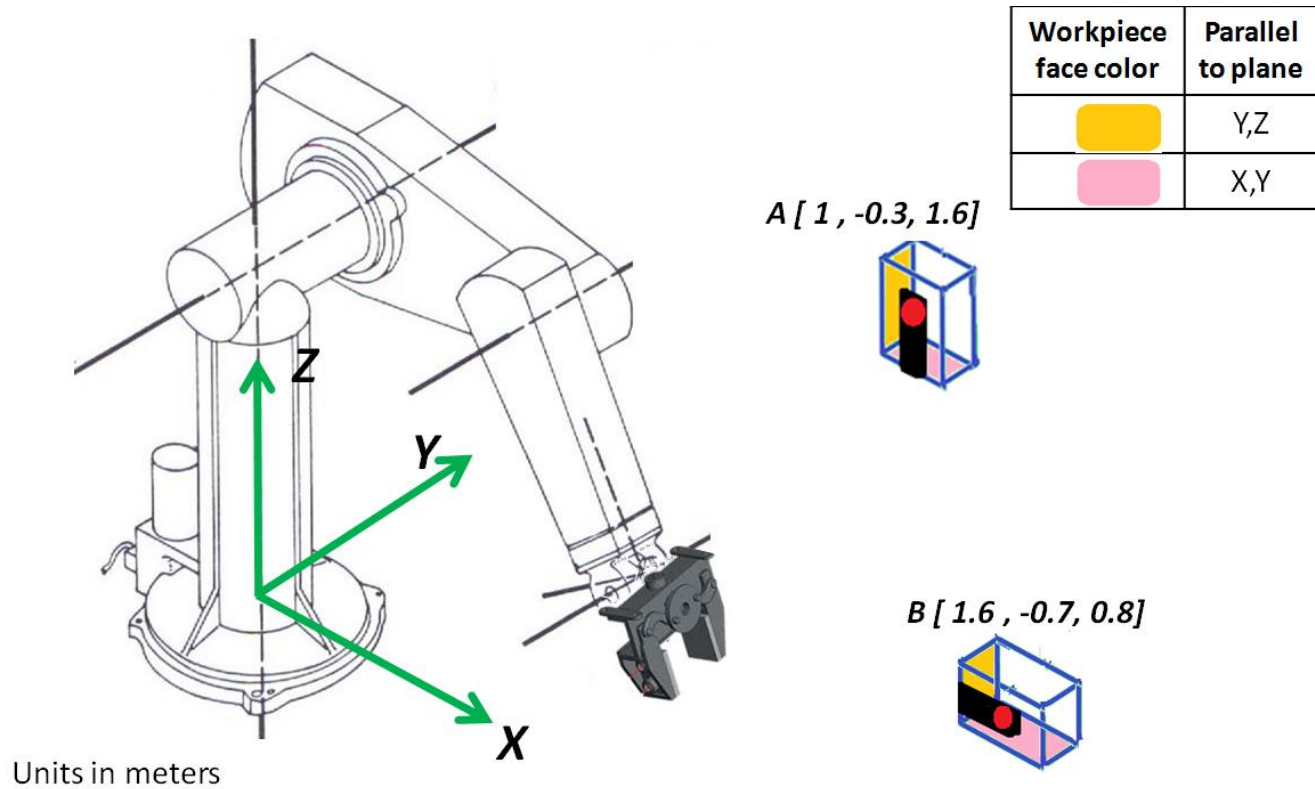

FIGURE 3. TARGETS POSITIONS AND ORIENTATIONS
The robot must be able to reach a work piece into different positions and orientations, **A** and **B**, see Figure 3. Notice that the fingers of the gripper **must be aligned with the black stripes** of the work pieces of Figure 3. Notice that the positions are given in meters.
- 5) Compute the inverse kinematics of the cases A and B shown in Figure 3, if the inverse kinematics method can not find a solution, go to step 2 and modify link offsets (d) and lengths (a)
- Solve the inverse kinematics for the target in cases **A** and **B** shown in figure 3.